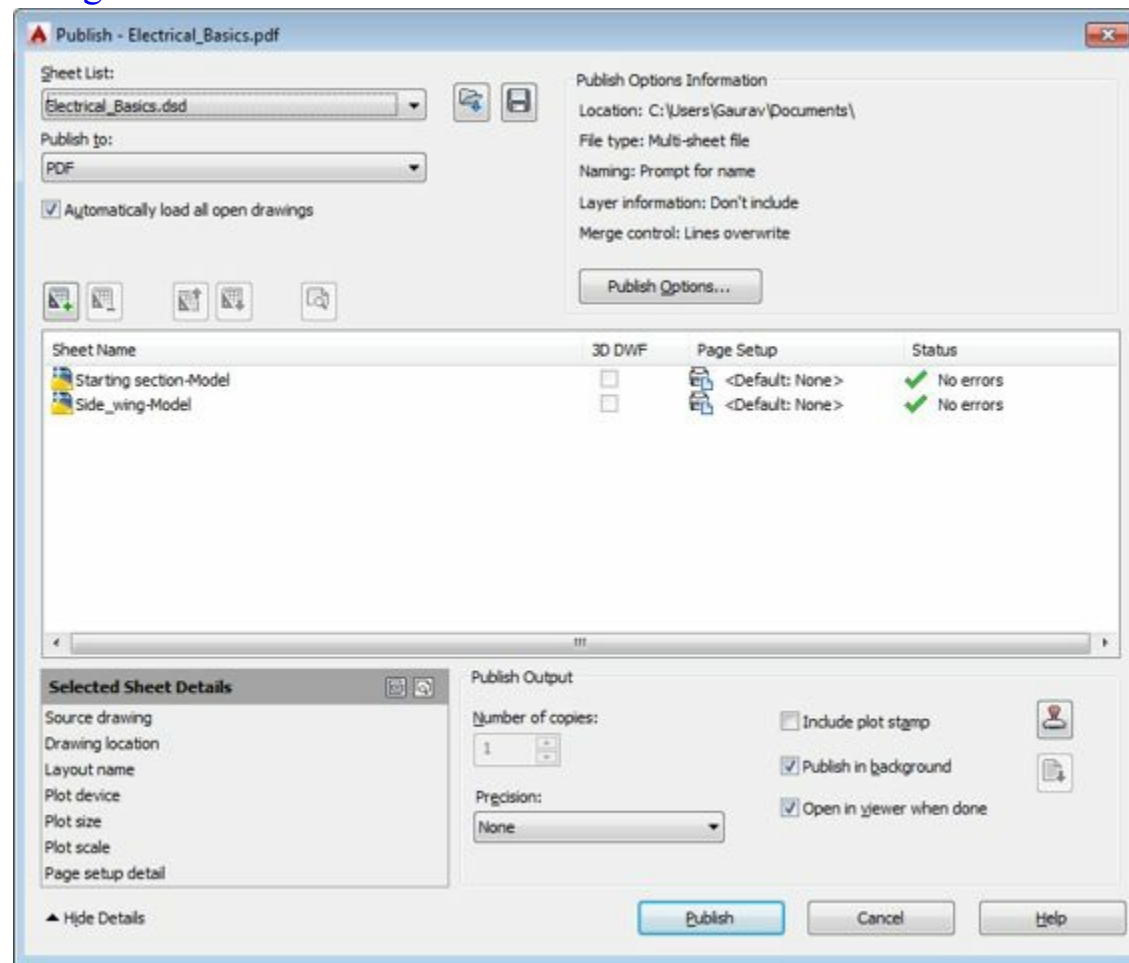

Figure-38. Publish dialog box
- Click on the **OK** button from the dialog box. The **Publish** dialog box will be displayed; refer to Figure-38.